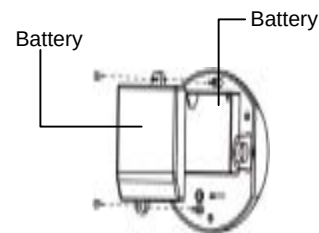

Figure 3. Battery Compartment
- Step 3. Remove battery compartment cover (Figure 3).